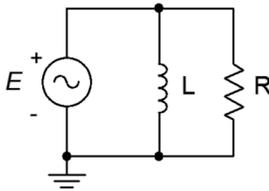

Figure 7.5
5. For the circuit shown in Figure 7.5, determine apparent power  $S$ , real power  $P$ , reactive power  $Q$  and power factor  $PF$ . The source is 90 volts,  $X_L = j30 \Omega$ ,  $R = 50 \Omega$ .